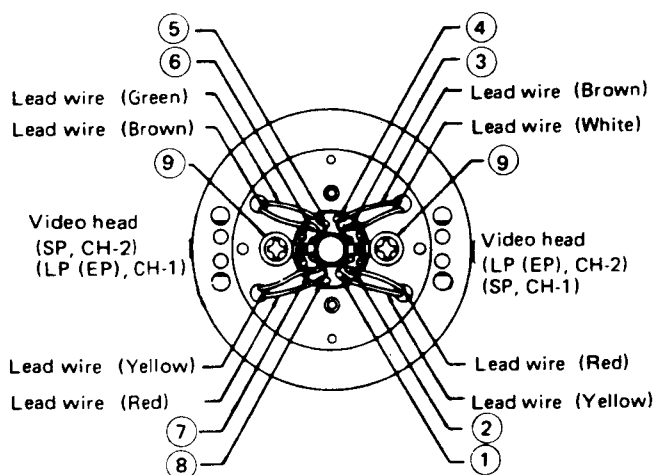

Figure 1-24.
1. Unsolder the leads ① to ⑧ and remove them.
2. Remove two screws ⑨ [brass screws (W3P + 9S) with plain washer] by using a philips screwdriver.
3. Withdraw the upper drum with care not to allow it to be tilted, and replace it. Do not damage the outer surface of the disk. For withdrawal of the upper drum, use the jig (specialized for removing the upper drum) shown in Fig. 1-24.